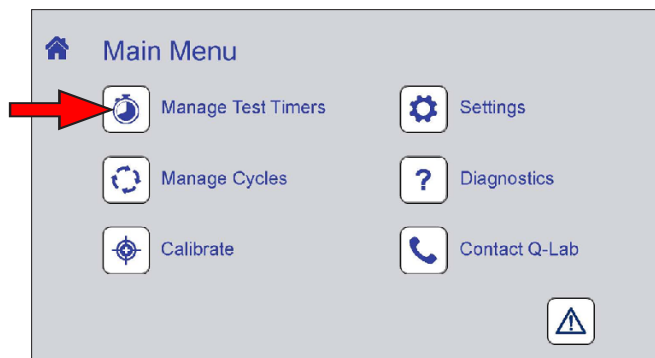

Figure 9.5a: Manage Test Timers icon.
- On the Main Menu screen touch the Manage Test Timers icon to display the Manage Test Timers screen (Figure 9.5a).